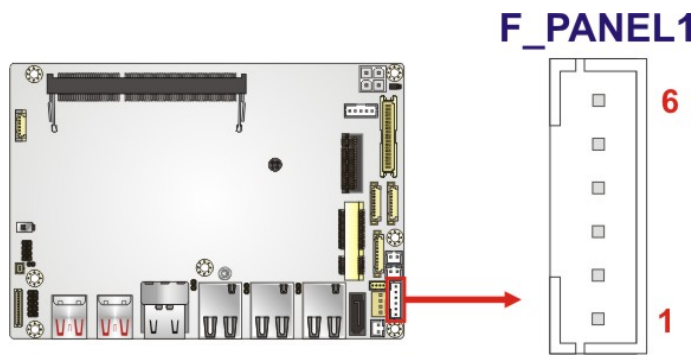

Figure 3-6: Front Panel Connector Location
- CN Location:** See **Figure 3-6**